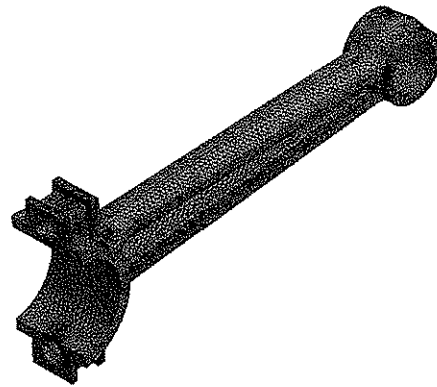

Figure 10-29 Mesh generated with the changed settings
14. Choose the **Update** tool from the **Mesh** contextual toolbar; the **ANSYS Workbench Update Model Status** message box is displayed. After sometime, this message box is closed and the mesh is generated with changed settings, as shown in Figure 10-29.